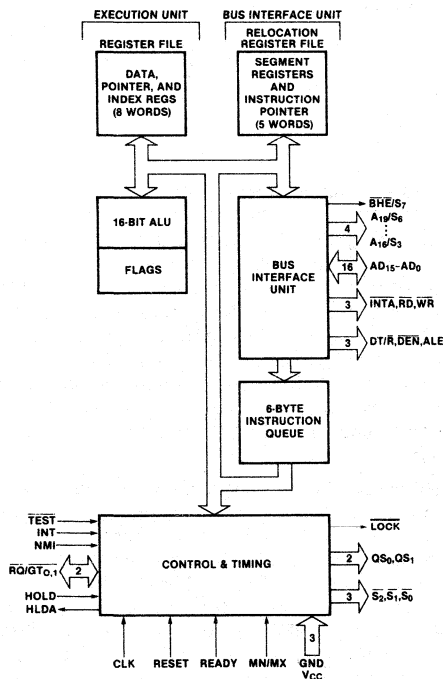

Figure 1. 8086 CPU Functional Block Diagram
The internal functions of the 8086 processor are partitioned logically into two processing units. The first is the Bus Interface Unit (BIU) and the second is the Execution Unit (EU) as shown in the block diagram of Figure 1.